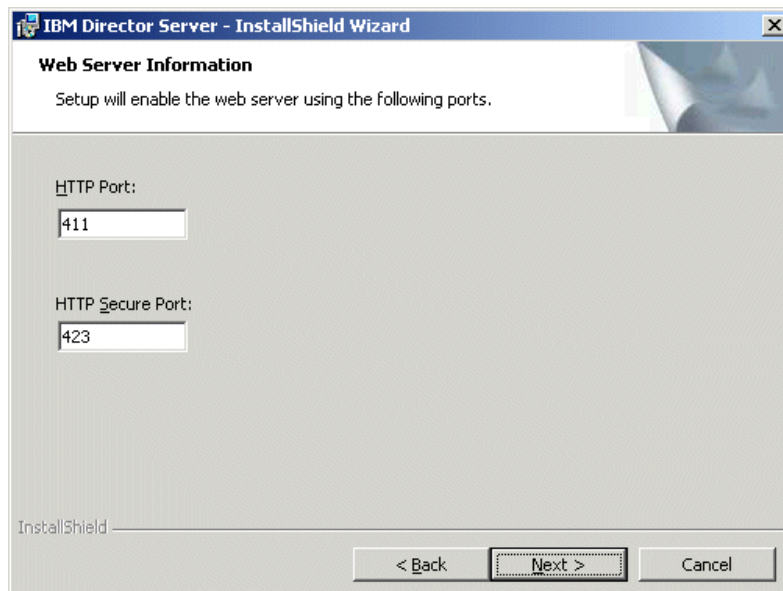

Figure 4-8 Web Server Information window
10. If you want to change the software distribution directory where IBM Director creates the packages, click **Change** and select a new directory. Likewise, for the directory where software distribution packages that the server receives, click **Change** and select a new directory. For our example, we accepted the defaults. Therefore, click **Next**. You will see a window similar to Figure 4-8.